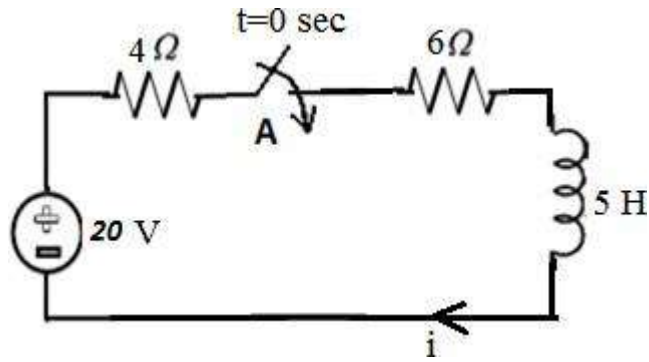

Figure: 3
b) In the circuit shown in figure 3, find current 'i' at $t = 3 \text{ sec}$. [8+7]